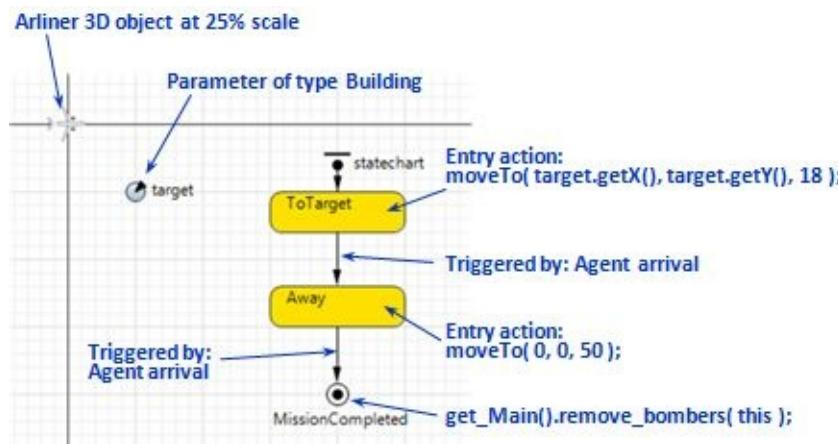

Figure 3.27 The statechart of the Bomber
25. Create the bomber statechart, as shown in Figure 3.27.